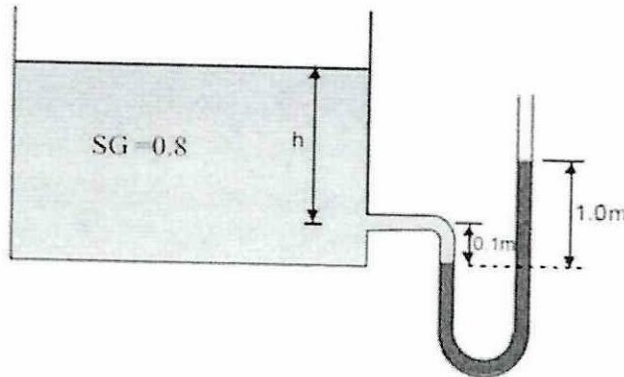

Figure Q1.1 A mercury manometer attached to a container.
(b) Figure Q1.1 shows a mercury manometer attached to a container of oil. Calculate the value of h if specific gravity (SG) for oil is 0.8.